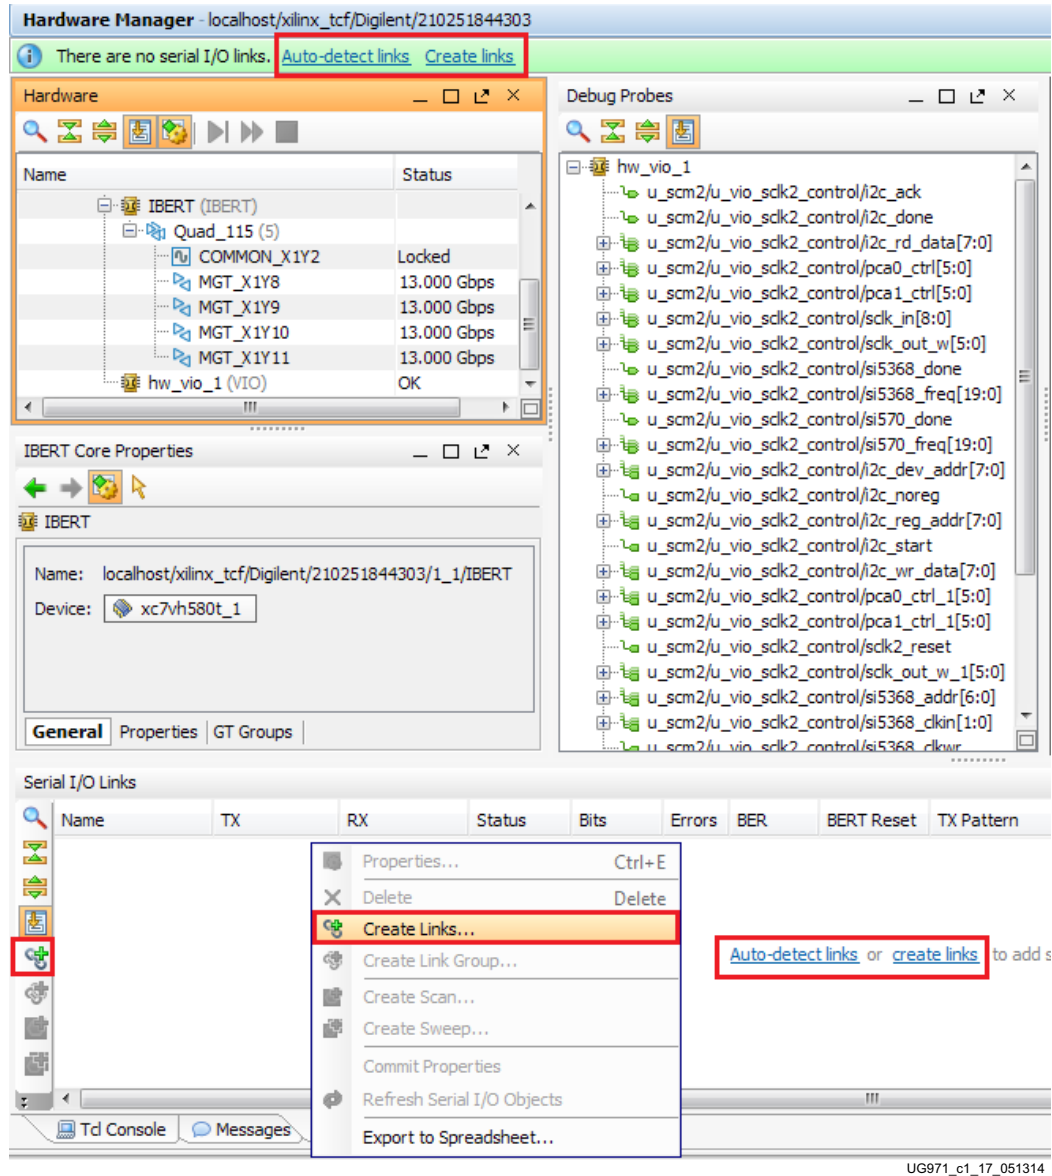

Figure 1-17: Serial I/O Analyzer—Create Links
- To view the GTH transceiver operation, click **Layout > Serial I/O Analyzer**. From the top of the Hardware Manager window, select **Auto-Detect Links** to display all available links automatically. Links can also be created manually in the Links window by right-clicking and selecting **Create Links**, or by clicking the **Create Links** button (Figure 1-17).